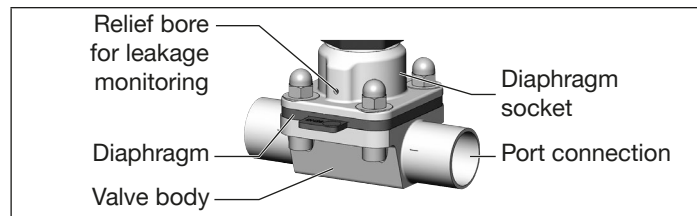

Fig. 29: Relief bore
- Periodic control of the relief bore (see “Fig. 29”).